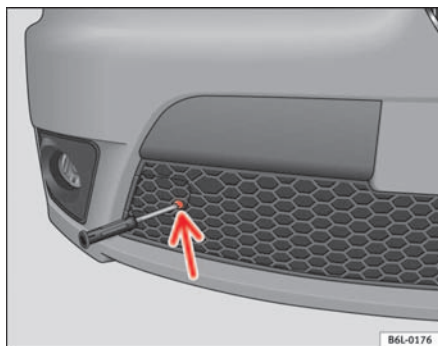

Fig. 172 Eye cover in the lower front grille.
- Remove the bolt holding the screwdriver equipped ⇒ fig. 172.